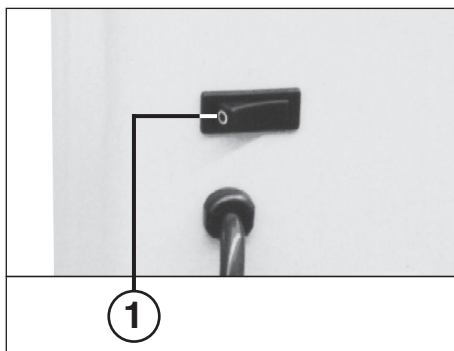

fig. 1
1 = Rocker switch „ready“ (fig. 1)
7 = Pilot lamp „door open“ (fig. 1)
To start, switch on the unit by operating the rocker switch (1) (fig. 1).
Please make sure that the shredder is switched off over night (rocker switch (1) (fig. 1)).